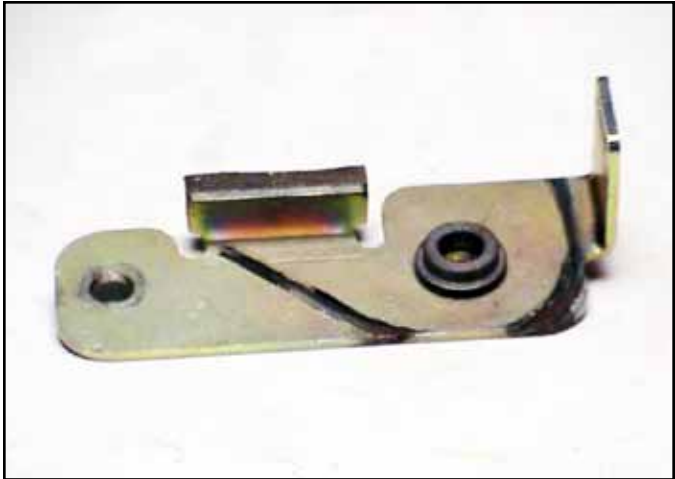

Fig 253 MVC-211Xa
1. Place the spacer with the large diameter down on the brake arm (Fig. 253).